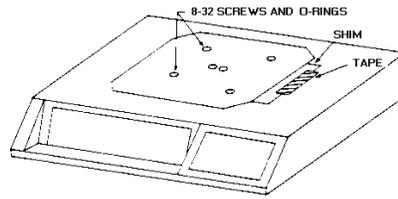

Figure 1
3. Remove the two 8-32 screws and rubber 0-rings form the top the sub-platter. See Figure 1.
4. Remove the tape and shim form the top of the right side of the dead-deck. See Figure 1. Skip the following step 4.